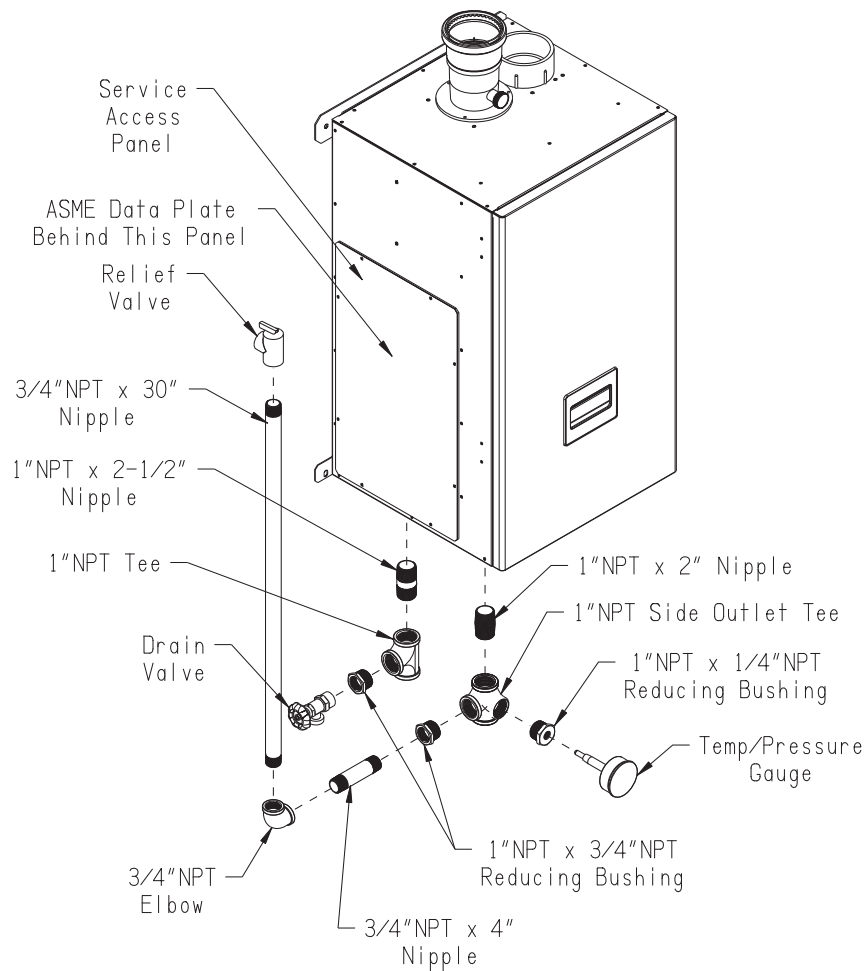

FIGURE 9.9: FACTORY SUPPLIED PIPING AND TRIM INSTALLATION
- 1) Relief Valve (Required) – The relief valve is shipped loose and must be installed in the location shown in Figure 9.9, using the side outlet Tee and other fittings provided. ASME Section IV currently requires that this relief valve be installed above the heat exchanger as shown. Pipe the outlet of the relief valve to a location where water or steam will not create a hazard or cause property damage if the valve opens. The end of the discharge pipe must terminate in unthreaded pipe. If the relief valve discharge is not piped to a drain, it must terminate at least 6” above the floor. Do not run the discharge piping through an area that is prone to freezing. The termination of the relief valve must be in an area where it is not likely to become plugged by debris.
The relief valve supplied with the boiler is set to open at 30 psi. If it is replaced, the replacement must have a setting less than or equal to the maximum allowable working pressure (MAWP) shown on the ASME data plate located on the left side of the heat exchanger behind the service access panel (Figure 9.9).
- 2) Gauge (Required) - Indicates supply water pressure and temperature. This gauge is shipped loose. Install it as shown in Figure 9.9.
- 10) Drain Valve (required) – Install the drain valve supplied as shown in Figure 9.9.